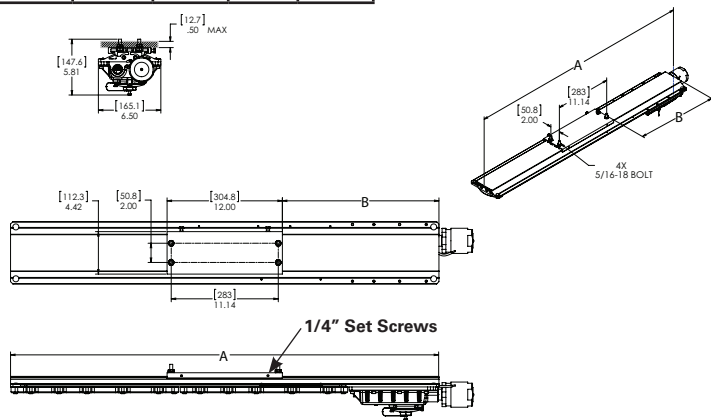

Figure 3. ZP1057MTK Back Mount Installation
- For back mount, use the bracket as a template, mark and drill holes into the mounting surface and use supplied 5/16" bolts (see Figure 3).
- It is strongly suggested to use two (2) qualified tradespeople to proceed with the final mounting of the fixture. This is recommended to avoid any personal injury or damage to the fixture.
- Place the four (4) 5/16" bolts through the mounting plate and tighten evenly to the support structure. Minimum torque 138 in.-lbs. (15.6 N-m).
- Tighten the four (4) 1/4" set screws on the slide bracket until they bottom. Torque to 78 in.-lbs. (8.8 N-m).